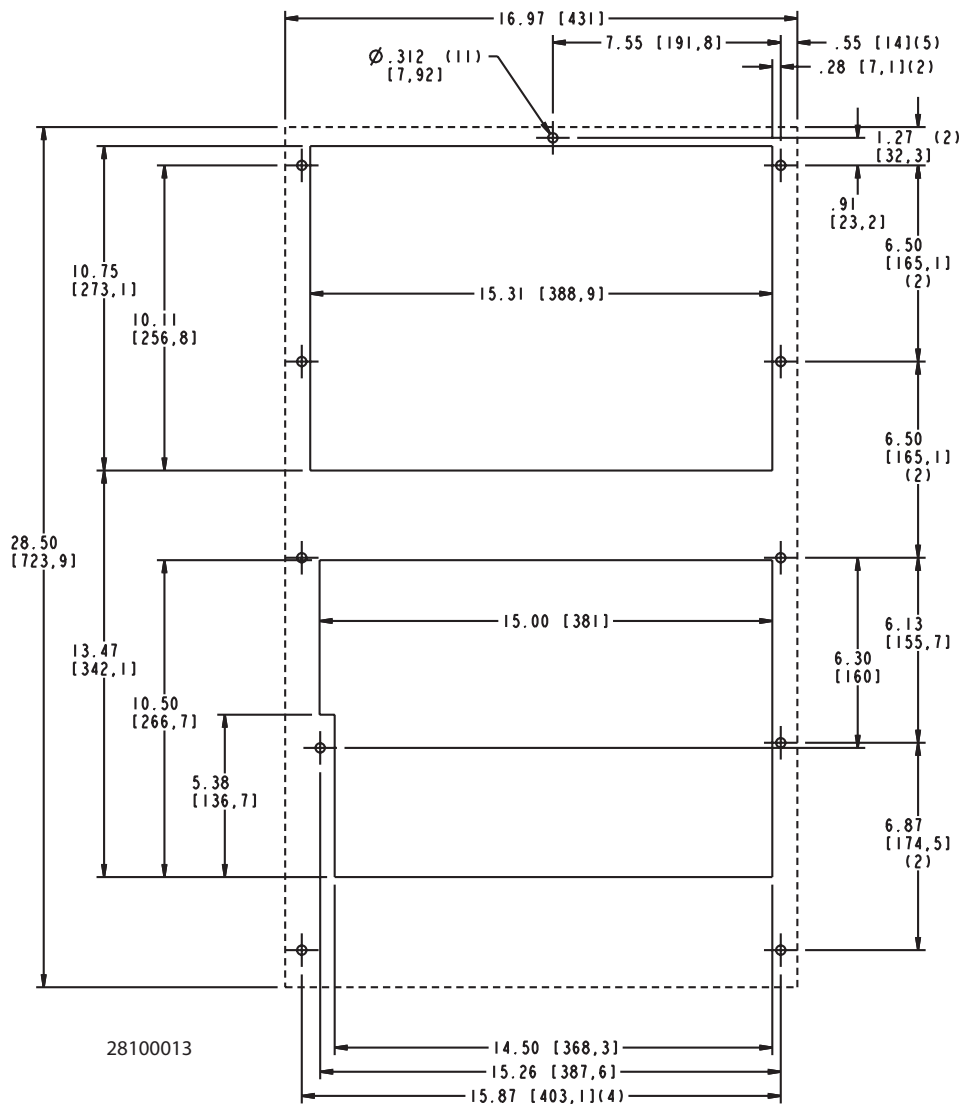

Figure 5
2. Using the mounting gasket kit provided with the unit, install gaskets to the air conditioner, see Figure 5.
4. Allow unit to remain upright for a minimum of five (5) minutes before starting. CAUTION! Air conditioner must be in upright position during operation.